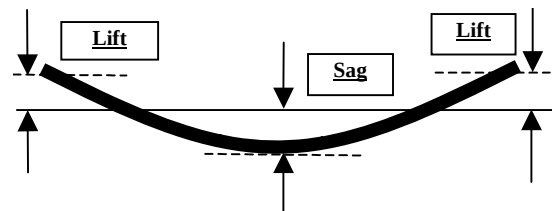

Figure 7
5.1.2.2 *U Type* — the type is the concave shape of substrate. The substrate shape is named as “U type”. U type mode consists of Sag at center location and two lifts which consist of the Lift at left and at right edge locations, as shown in Figure 7.